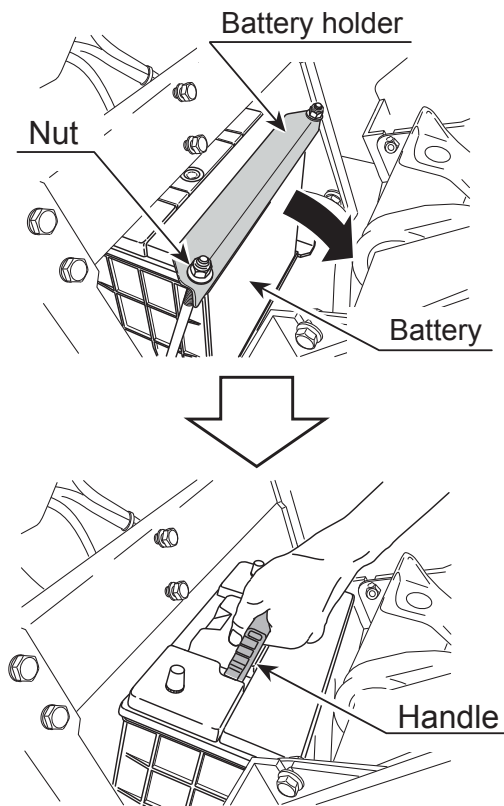

Figure 32. Removing Battery
4. Take off the nuts and remove the battery holder (Figure 32).
6. Pull up the handle on the top of the battery to remove the battery from the machine.(Figure 32). Make sure that the battery terminals do not touch the frame.